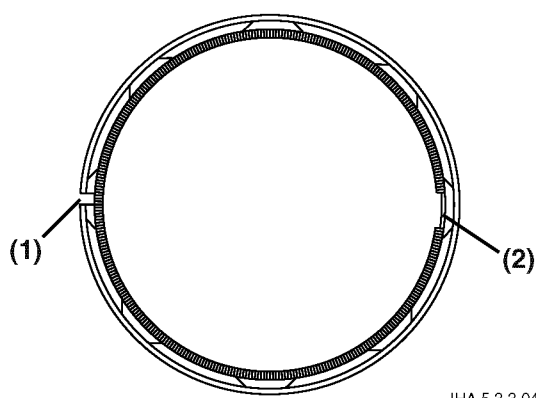

Figure 5-54
5. The oil control ring is equipped with a coil expander. Stagger the coil expander joint (Figure 5-54, (2)) 180° away (opposite) from the oil ring gap (Figure 5-54, (1)).